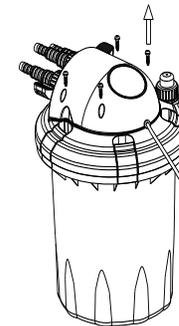
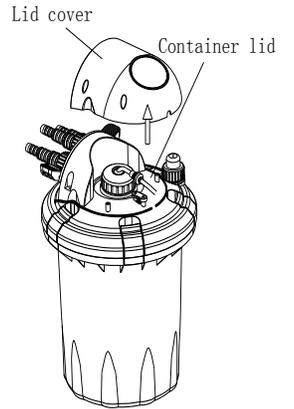
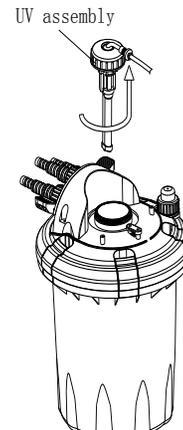
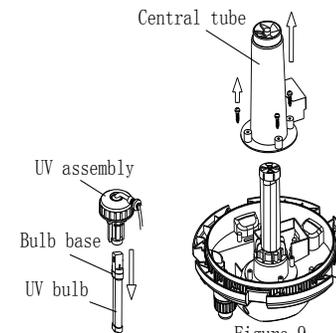

Figure 5
Figure 6
Figure 7
Figure 8
1. To change bulb, first unplug the pump and bio-filter from its power source. Rotate the lid cover, until the arrows on the lid cover aim at the arrow on the ring holder (See figure 5). Remove the lid cover from the top of container lid(See figure 6). Unscrew the UV light assembly counterclockwise and gently lift out (See figure 7). Allow UV light assembly and light bulb to cool and dry completely before handling. Once cool and dry, grip the base of the bulb with a dry cloth and gently pull the bulb from the assembly unit (do not pull on the bulb by gripping the glass element)(See figure 8).Slide new bulb into place until properly seated. Do not test UV light until the filter has been completely reassembled.